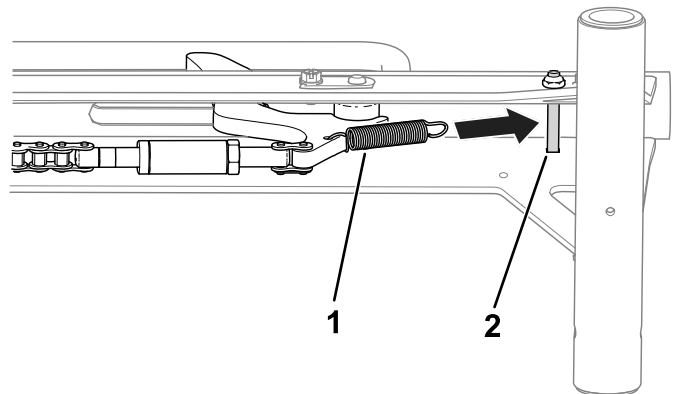

Figure 5
7. Connect the spring to the wheel stop and bolt inside of the rail assembly (Figure 5).